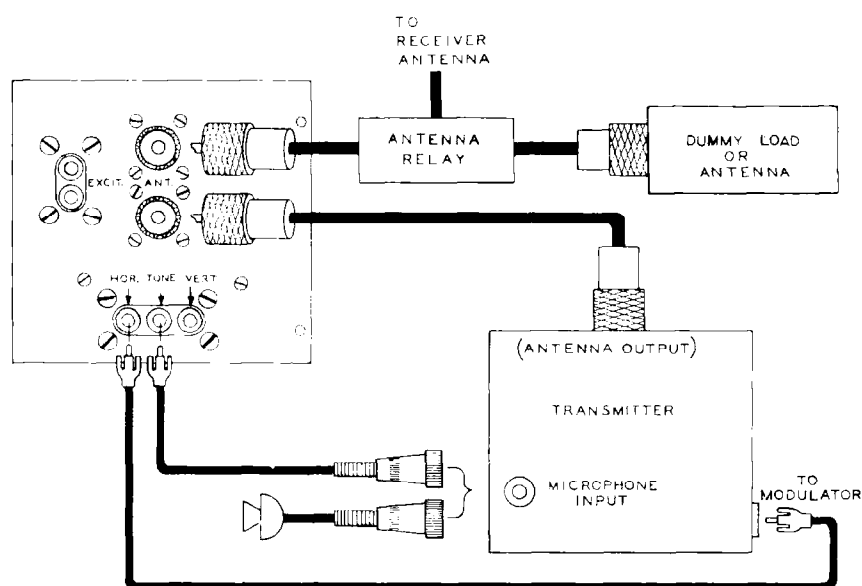

Figure 4
## AF TRAPEZOID PATTERNS (FIGURE 4)
2. Connect the Scope to the transceiver as shown in Figure 4 on Page 45. Also see Figure 7A which is a schematic diagram of a typical CB Transceiver output stage.